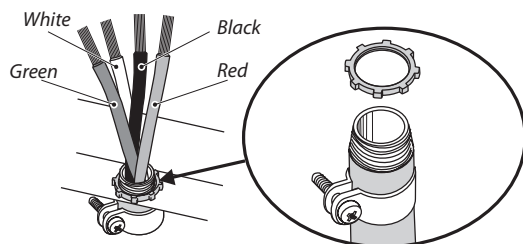

Fig. 13.7
3. Install the new strain relief device into the terminal box housing plate by removing the two clamping screws, feeding the two halves (ears first) through the hole in the mounting plate and loosely replacing the screws (**Fig. 13.7**). Insert the power cord through the strain relief device but **DO NOT** tighten the device yet (**Fig. 13.7**).
7. Tighten the strain relief making sure the wires of the supply cord are installed correctly (**Fig. 13.7**).